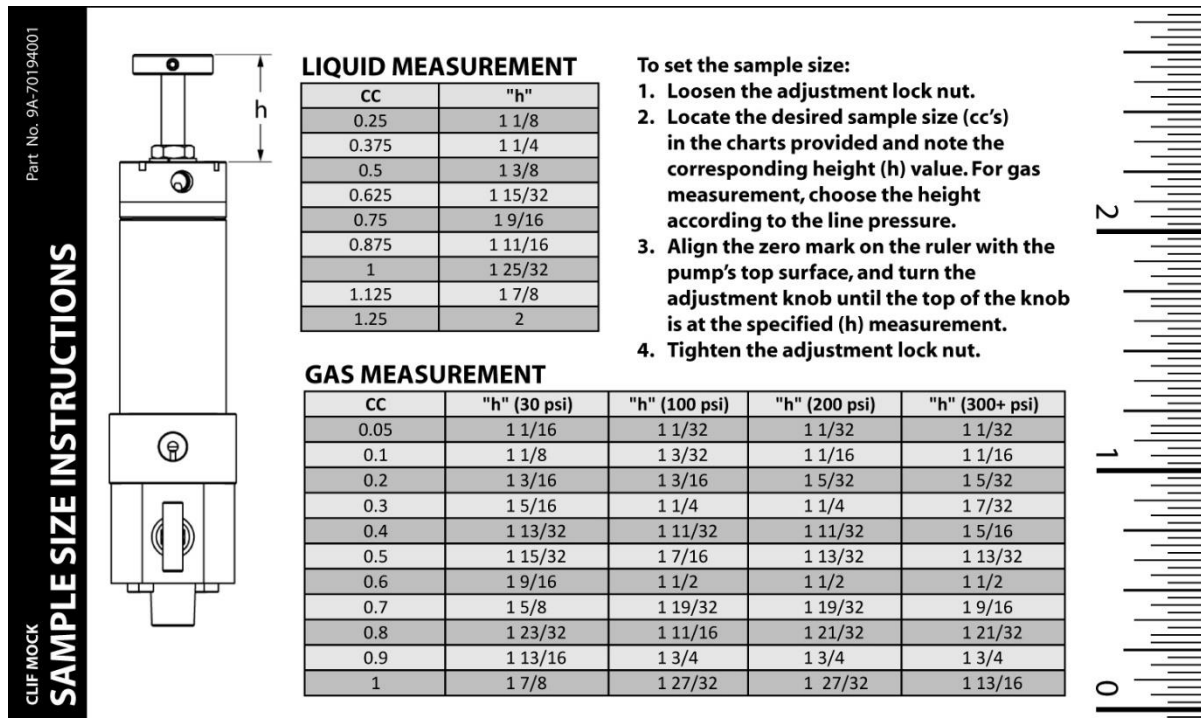

Figure 5: Laminated sample size card for adjusting sample size in the field
Sample size is set by adjusting the knob at the top of the sample pump to a predetermined height ("h") above the flat surface of the pump. The height measurement required directly corresponds to the sample size desired. Charts for determining corresponding height measurements for liquid and gas samples are provided on a laminated Sample Setting card that is stored inside the controller enclosure. The laminated card, shown in Figure 5, also includes a ruler for measuring the adjustment height.
1. Use the laminated Sample Setting card, see Figure 5, come with the sample controller and locate the appropriate chart for liquid or gas sample size.